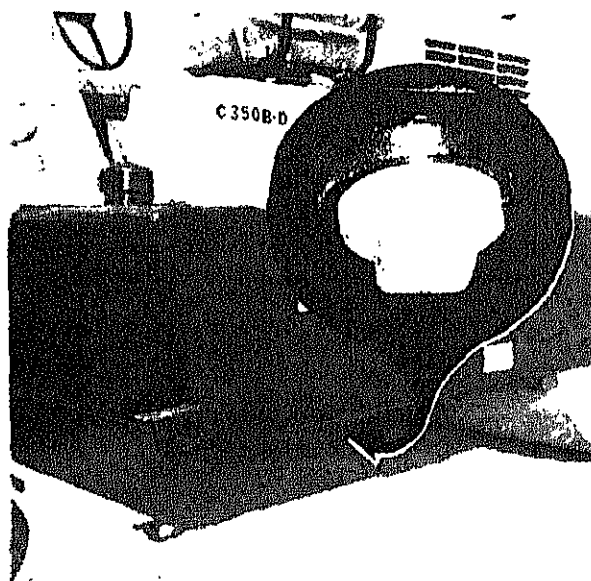

FIGURE 11-5.
a. Drain the water tank for periodic cleaning by removing the drain plug located under the unit (see figure 11-5). An access plate is located at the front of the unit frame.